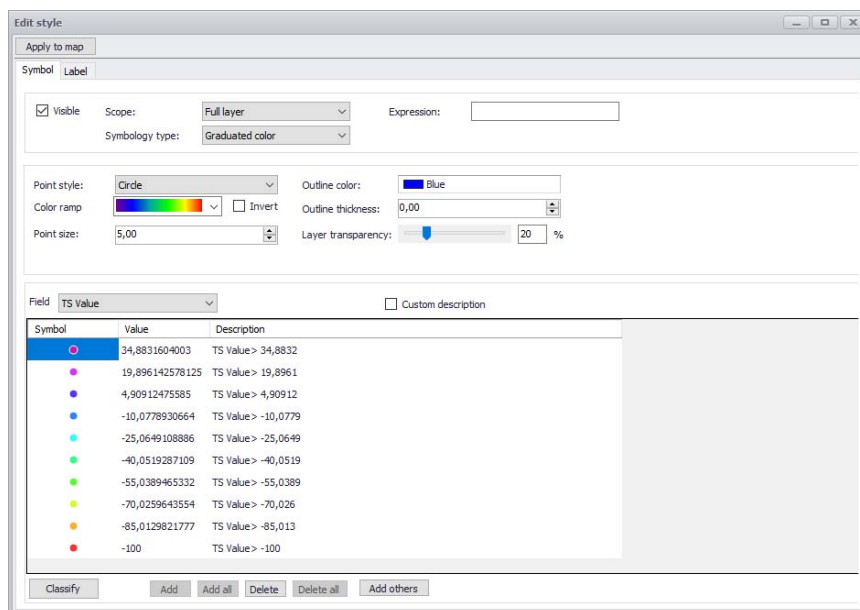

Figure 20.19 The Edit Style dialog Symbol tab
- Click on the 'Edit style' option to access the Edit Style dialog. There are two tab pages on the dialog: Symbol and Label. Access the relevant tab page to customize labelling or symbology (Figure 20.19 and Figure 20.22).